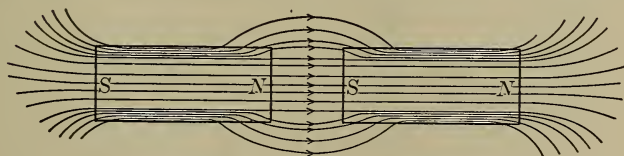

FIGURE 137. — FIELD BETWEEN TWO UNLIKE POLES.
**183. Characteristic Fields.** — The following drawings show the direction of the lines of force in several cases. (Figures 137, 138, 139, 140, 141.)